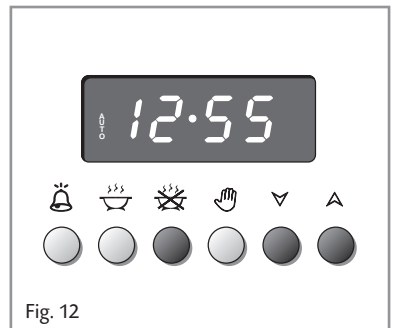

Fig. 12
2. Set the end of the cooking time by pressing the  button (the cooking time already added to the clock time will appear), and the  button (fig. 12); if you pass the desired time you may get back by pushing the  button. After this setting, the  symbol will disappear. If after this setting, the **AUTO** flashes on the display and a buzzer sounds, it means there was an error in the programming, that is that the cooking cycle has been superimposed on the clock. In this case, modify the end of cooking time or the cooking period itself by following again the above mentioned instructions.